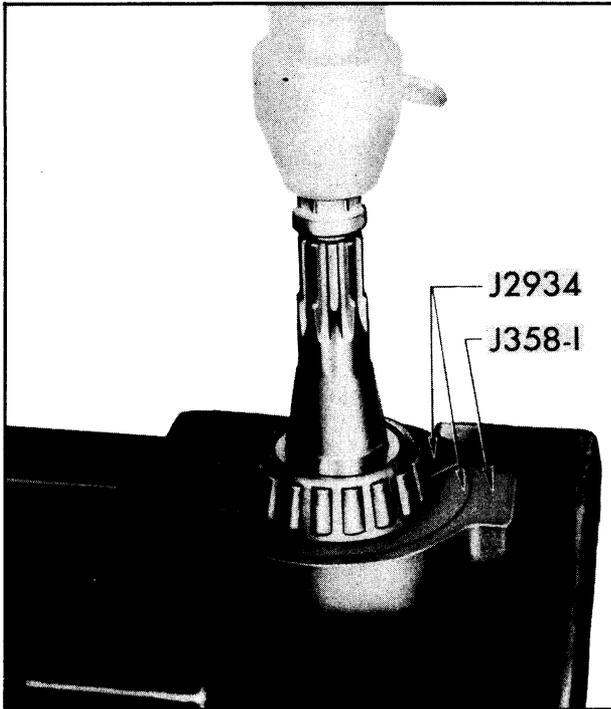

Fig. 6-21 Removing Rear Bearing
20. If the rear bearing is to be replaced, use Tool J-2934 and J-358-1 placed in an arbor press as shown in Fig. 6-21, to press the rear bearing inner race and roller assembly off the pinion shaft.